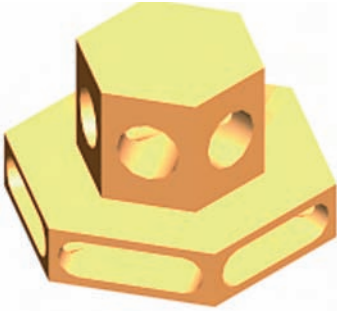

Fig. 17.30 Exercise 2 – a rendering
- Construct a 3D model of the stand. When completed add suitable lighting to the scene. Then add a material to the model and render (Fig. 17.30).